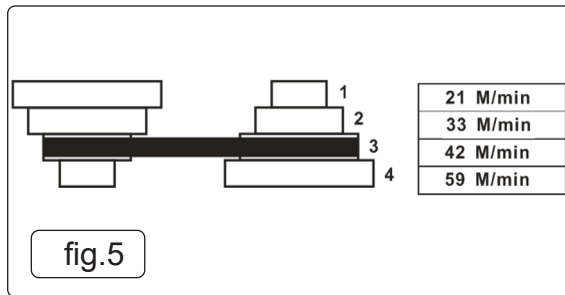

fig.5
4.4.2. Place V-belt on drive and motor pulleys with V-belt in desired location on pulleys. See Blade Speed Chart. (fig.5)